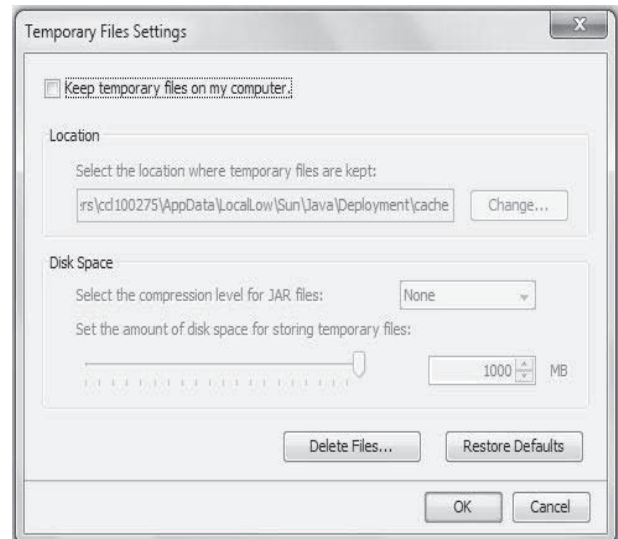

Fig. 56 — Temporary File Settings
- Temporary internet files: In the Java Control Panel, click Settings in the Temporary Internet Files section. Be sure the setting **Keep temporary files on my computer** is unchecked (clear). See Fig. 56.